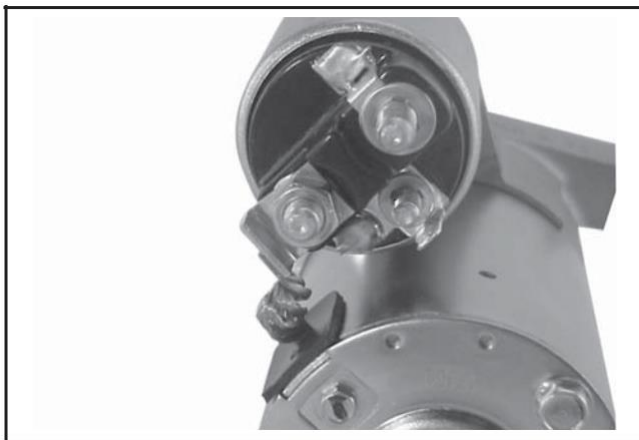

Figure 8-67. Positive Brush Lead Connection.
14. Connect the positive brush lead/bracket to the solenoid and secure with the hex. nut. Torque the nut to **6-9 N·m (53-79 in. lb.)**, do not overtighten. See Figure 8-67.